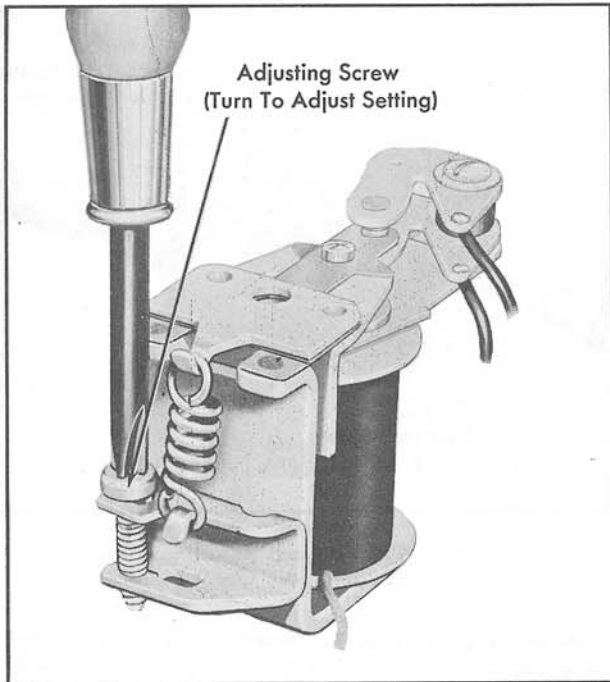

Fig. 12-7 Adjusting Voltage Regulator Lower Contacts
To adjust current setting, turn the adjusting screw in the same manner as described for the voltage regulator. Turn clockwise to increase current setting and counter-clockwise to decrease setting. Adjust setting to 55 amperes, Fig. 12-7.
6. Turn adjusting screw clockwise to raise voltage to 14.0-14.6 volts. If setting is above 14.6 volts, loosen screw until voltage drops to 14.0 volts and make final adjustment by increasing the voltage, Fig. 12-7.